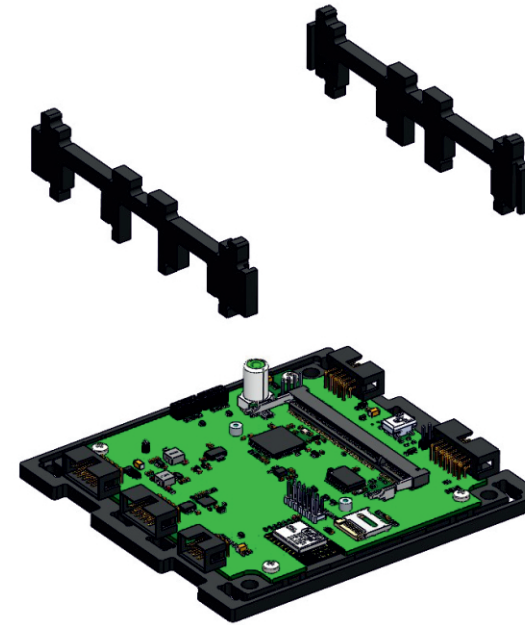

Fig. 19: Mounting and securing side walls
- 3) Secure side walls to the base plate. To do that, align side wall protrusions with holes in the base plate and latch them (Fig. 19):